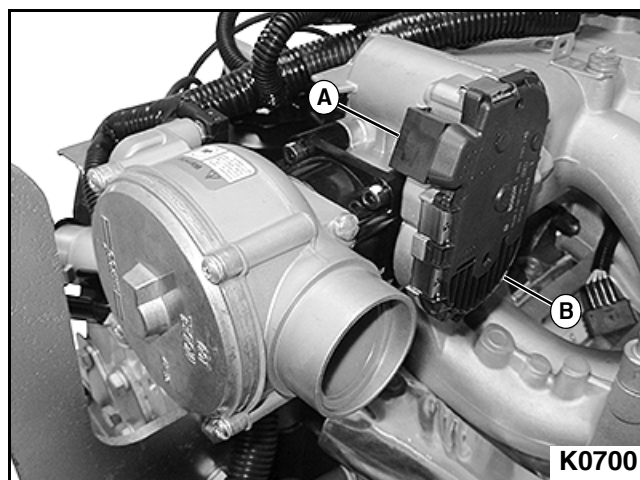

Figure 3-42
5. Install electrical connection at throttle body (A) to throttle position sensor (B). **See Figure 3-42.**